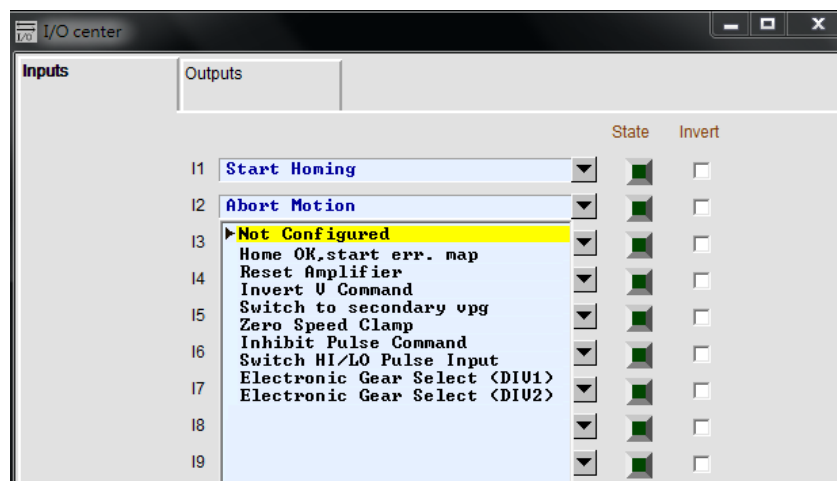

Figure5.5.1.1 Input function menu
Click  in the main toolbar on the main window to open the I/O center. Click the drop-down button () in the input function menu to select the digital input pin and its function, as shown in figure 5.5.1.1. D2 (D2T) model has 9 (10) digital inputs.